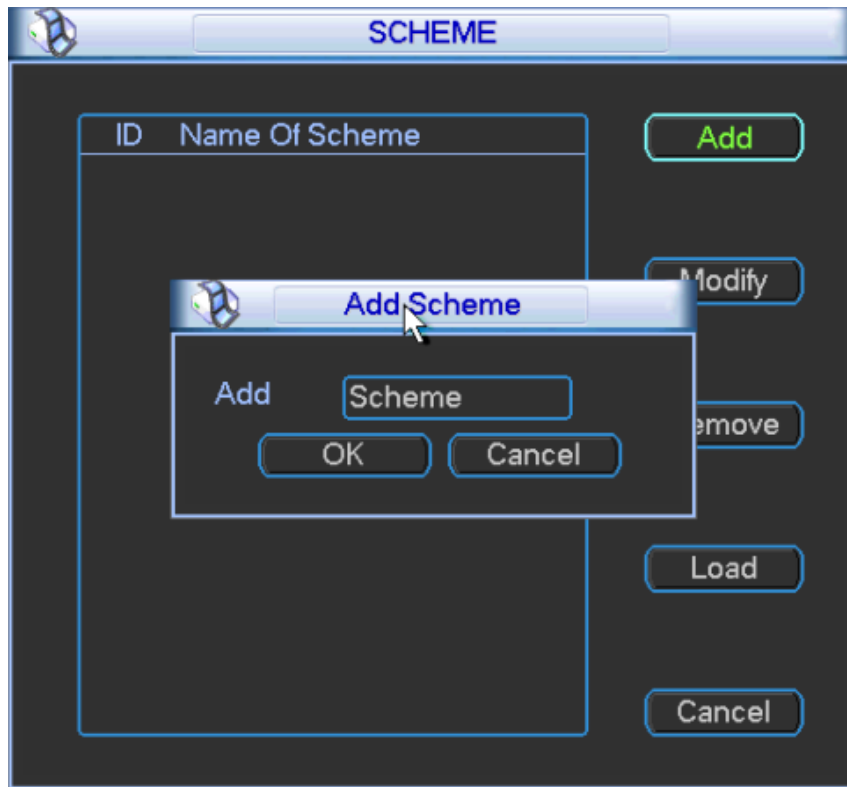

Figure 3-19
- Select one scheme and click "Modify" to rename it, as shown in Figure 3-19.